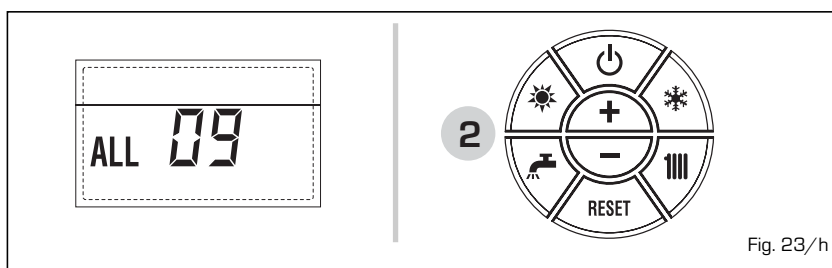

Fig. 23/h
– **ANOMALIA SONDA ANTIGELO SIFONE “ALL 10” (fig. 23/i)**